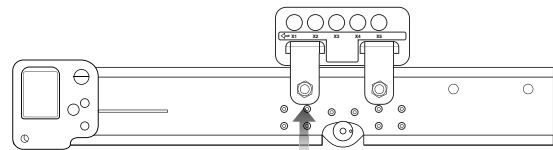

Fig. 4. Center rail rigging point D and orientation X.
4. Install the front mounting point of the multipoint adapter in position D using provided bolts, nuts and bolt pins; see Fig. 4.